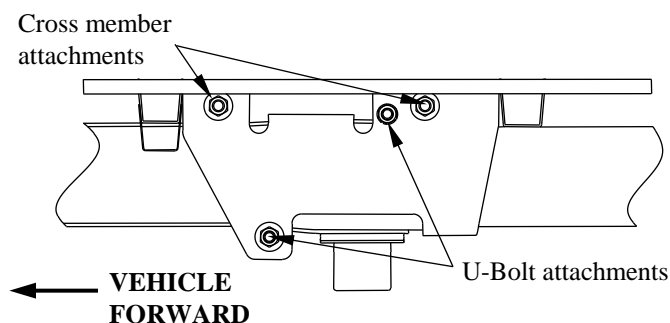

Figure 7
- Line up the mounting holes on the frame brackets with the studs on the ends of the cross members. Loosely attach frame brackets to rails with 5/8" hex nuts, lock washers and flat washers as shown in Figure 7. The brackets will fit closely between the two bed supports.